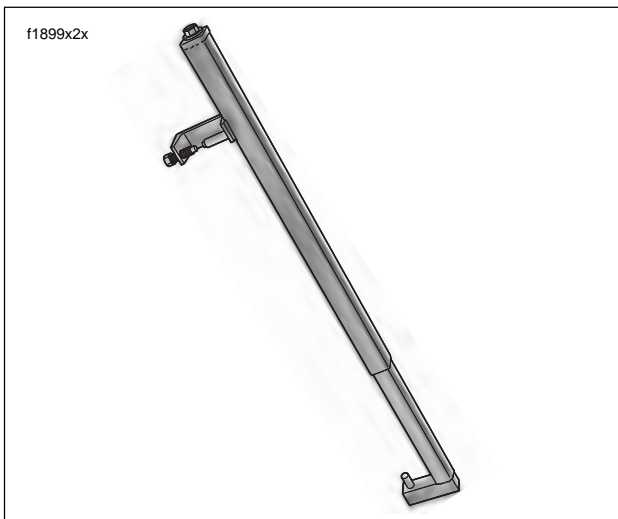

Figure 2-60. Fork Spring Compressing Tool
- Remove fork cap (4) from outer tube.
- See Figure 2-60. Move the fork assembly from the holding tool and compress fork in the FORK SPRING COMPRESSION TOOL.
- See Figure 2-60. Uncompress fork and remove from FORK SPRING COMPRESSION TOOL.